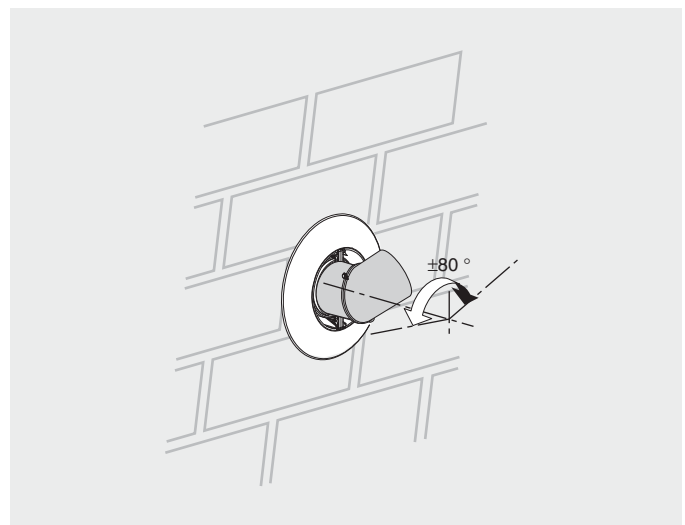

Fig. 13
- ▶ The entire termination can now be rotated left or right $\pm 40^\circ$ to redirect the plume (→ Fig. 13).